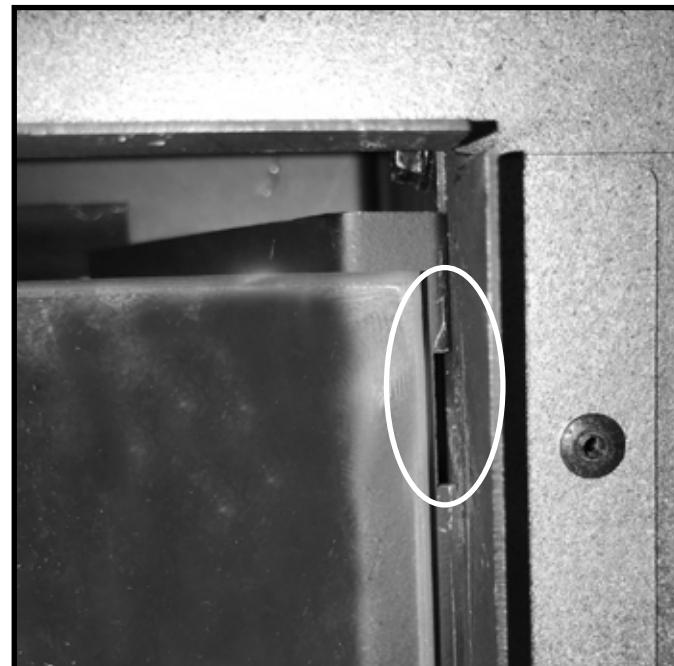
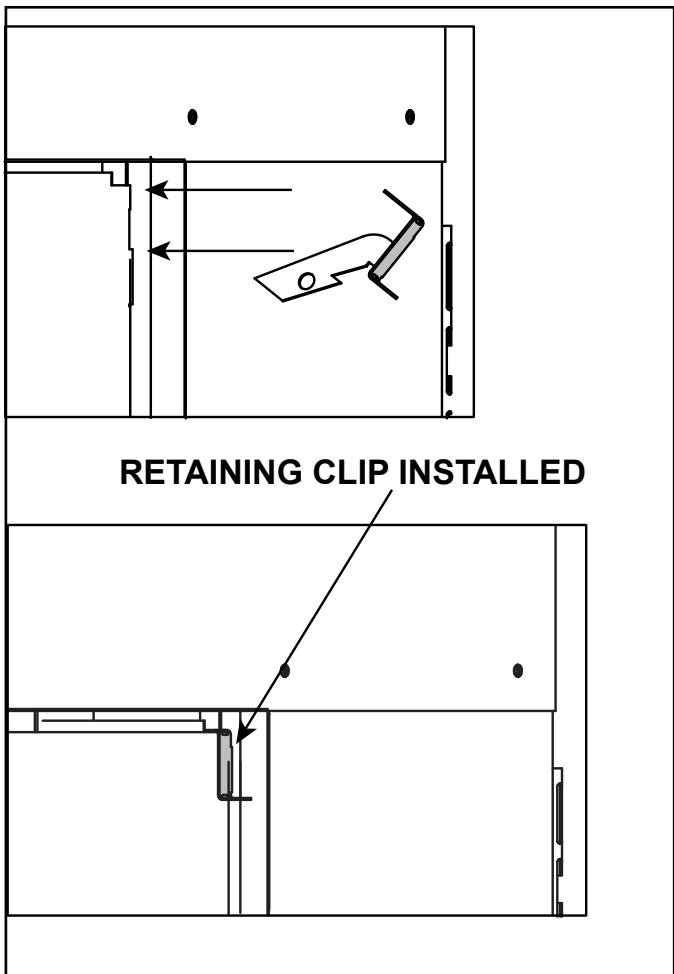

Figure 4.15 Slot for Barrier Glass Retaining Clip (Right Side Shown)
Figure 4.16 Barrier Glass Retaining Clip Installation
2. Remove barrier glass retaining clips on left and right sides by gently pulling up and rotating outward. See Figure 4.16.
4. Install the SafeSurface glass retaining clips by placing the bottom of the clip into the slot shown in Figure 4.15. Rotate the top of the clip up into position as shown in Figure 4.16. Repeat on both sides of the appliance.